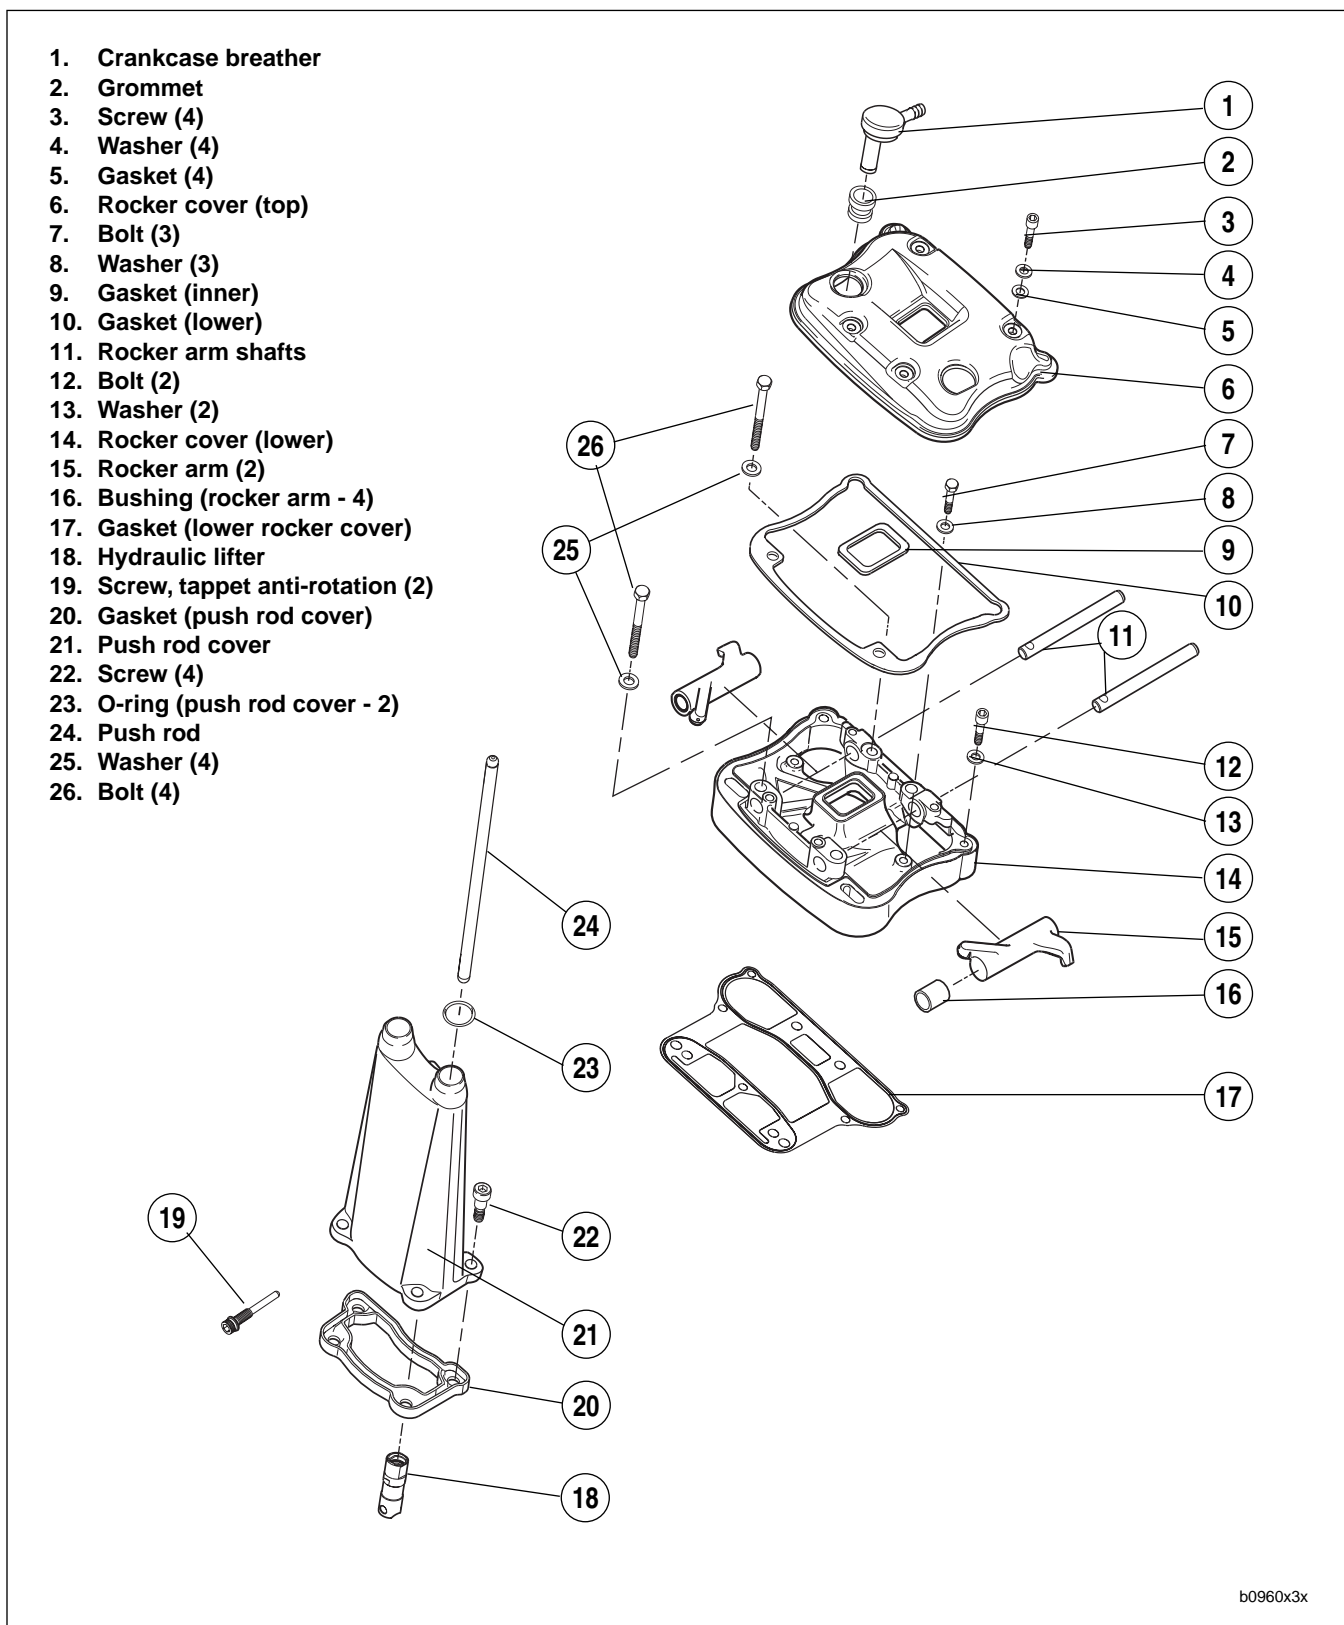
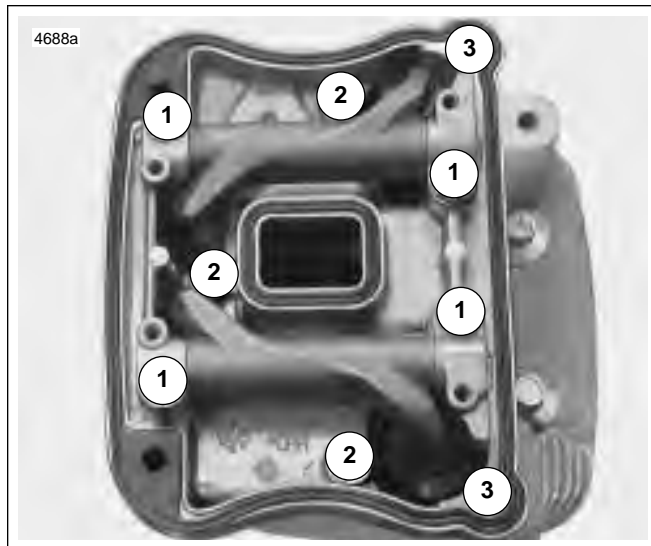

Figure 3-84. Rocker Arm and Pushrod Cover Assemblies
Figure 3-85. Lower Rocker Box Fasteners
9. See Figure 3-85. Install **new** gaskets with the bead facing up. Place lower rocker box assembly (with rocker
10. See Figure 3-85. Install hardware attaching lower rocker cover to cylinder head in the following order. After loosely installing all fasteners, use a cross pattern on the four large bolts that fasten the lower rocker box to head to tighten and then torque to specifications. This will bleed the tappets. Finish tightening remaining fasteners. Fastener sequences, sizes and torque specifications are listed in Table 3-21.
- a. Tighten bolts (1) to 18-22 ft-lbs (24-30 Nm).
- b. Tighten bolts (2) to 135-155 **in-lbs** (15-17.5 Nm).
- c. Tighten bolts (3) to 135-155 **in-lbs** (15-17.5 Nm).
11. See Figure 3-84. Install upper rocker covers.